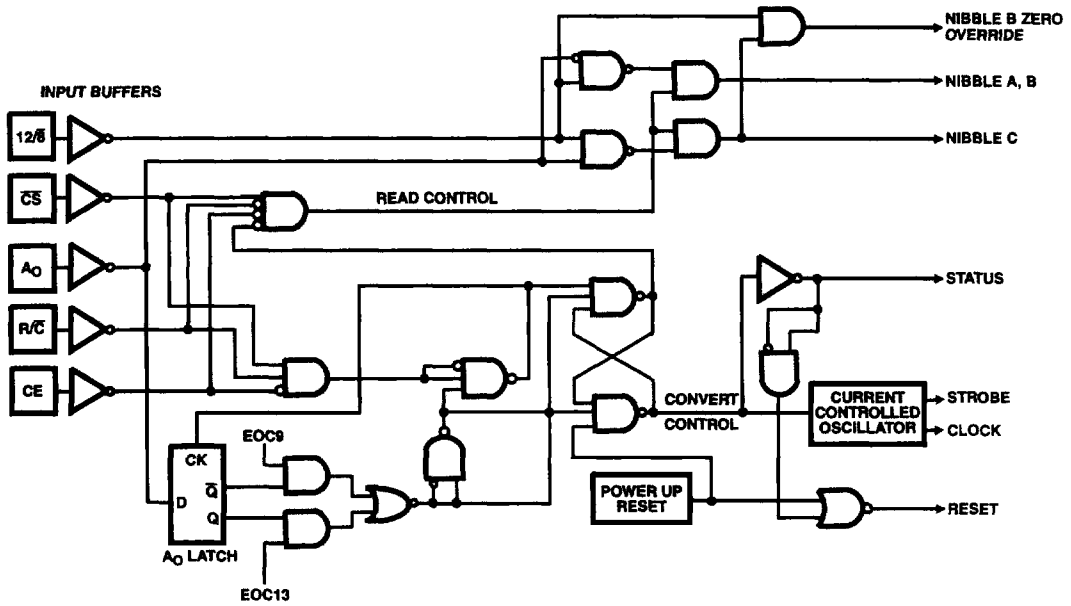

FIGURE 7. HI-774 CONTROL LOGIC
The HI-X74(A) includes logic for direct interface to most microprocessor systems. The processor may take full control of each conversion, or the converter may operate in the "stand-alone" mode, controlled only by the R/C input. Full control consists of selecting an 8-bit or 12-bit conversion cycle, initiating the conversion, and reading the output data when ready-choosing either 12 bits at once or 8 followed by 4, in a left-justified format. The five control inputs are all TTL/CMOS-compatible: ($12/8$, \overline{CS} , A_O , R/\overline{C} and CE). Table 1 illustrates the use of these inputs in controlling the converter's operations. Also, a simplified schematic of the internal control logic is shown in Figure 7.